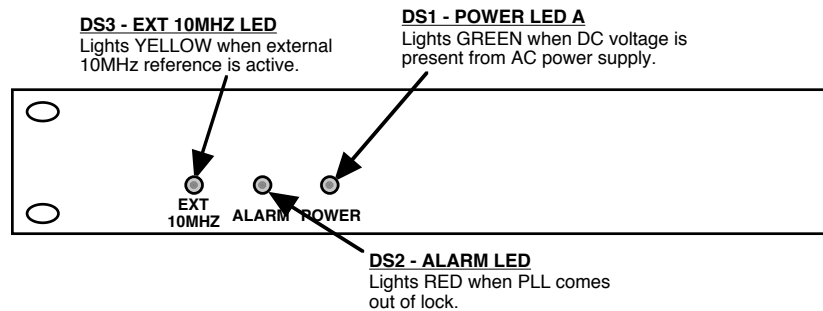

FIGURE 2.2 2116-6T4 Front Panel Controls and Indicators
Figure 2.2 shows the front panel indicators.
4. Be sure DS1 (green, DC Power) is on and DS2 (red, Alarm) is off (Figure 2.2).
6. If EXT is selected or AUTO is selected and there is a 10MHz, 3 dBm signal at J2, check that DS3 (yellow, Ext 10MHZ) is on (Figure 2.2).